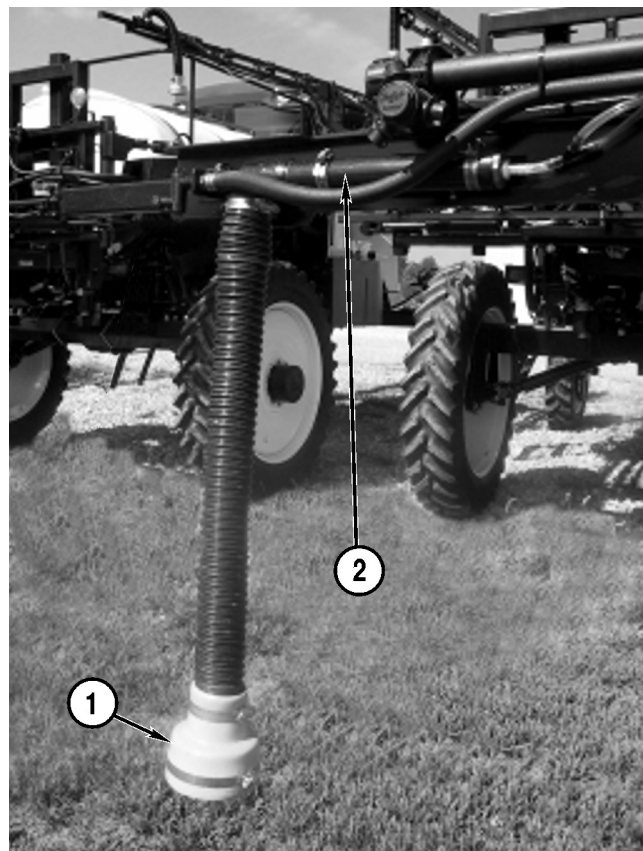

Figure 4-15
6. Remove the lid on the top of the foam tank (Figure 4-15), add the appropriate amount of foam concentrate and install the lid.